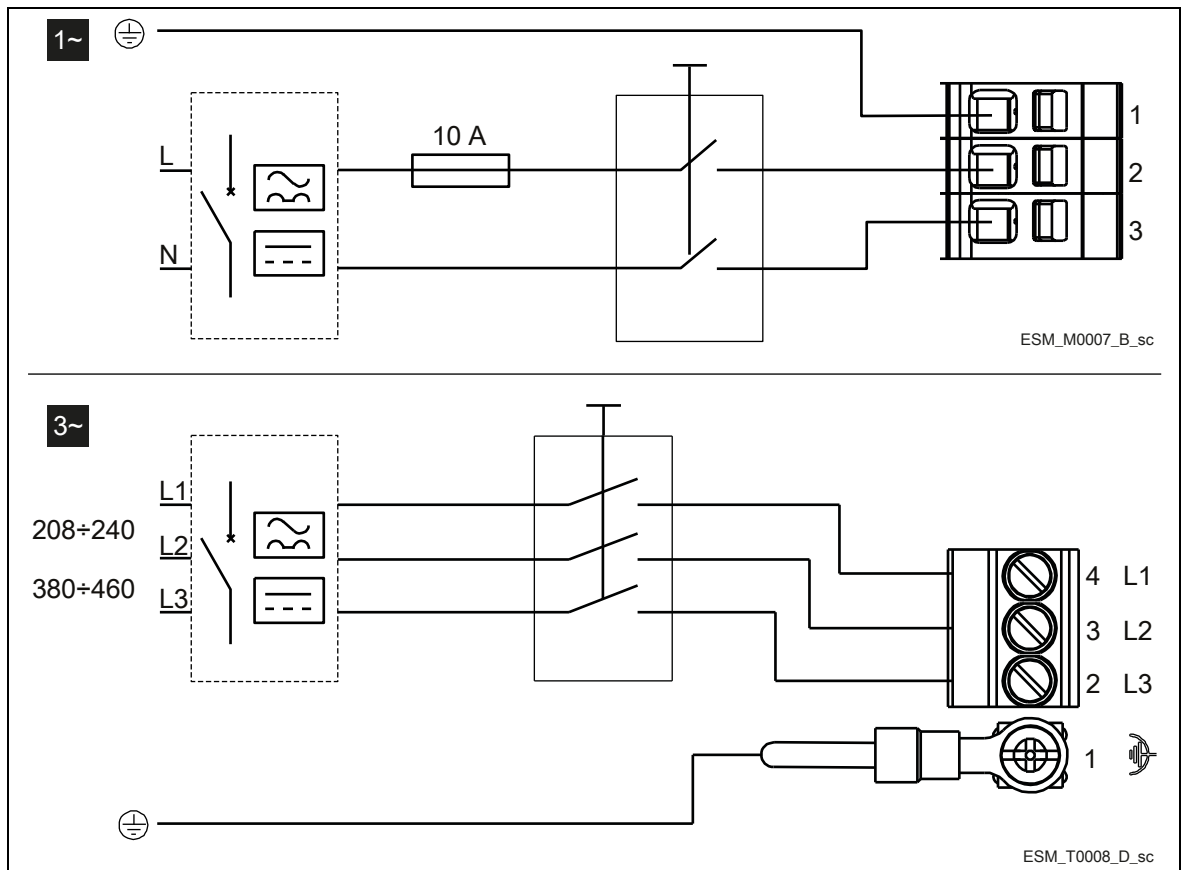

Figure 14: Wiring diagram
2. Insert the power cable in the M20 cable gland (5)
4. Connect the earth conductor (mass), making sure that it is longer than the phase conductors.	Fig. 14